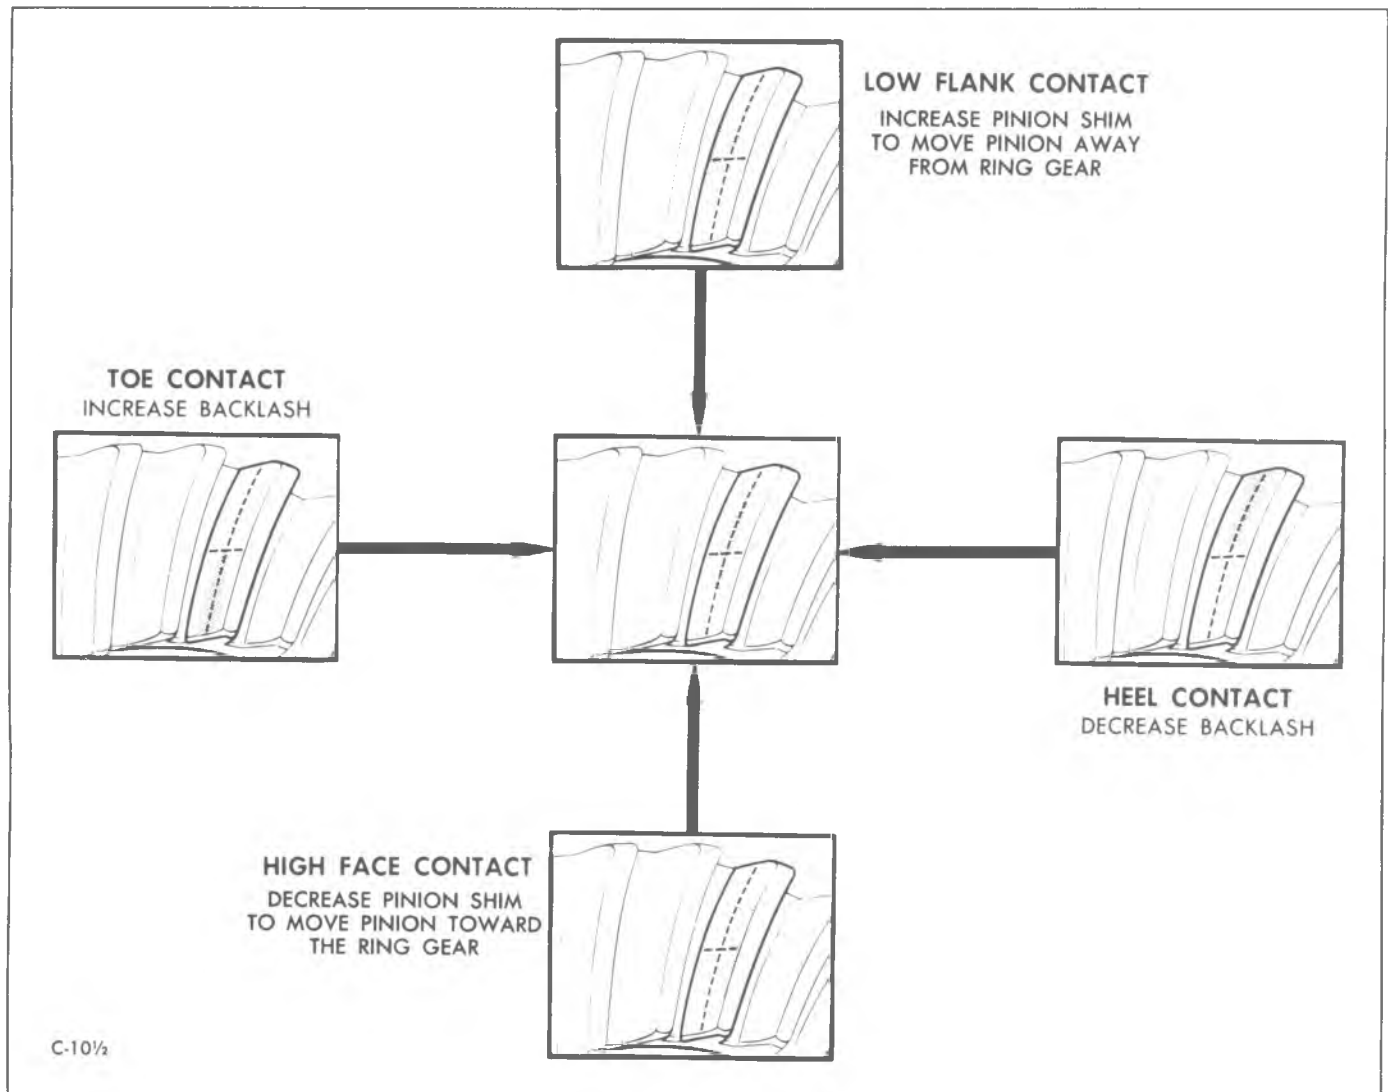

Fig. 18E--Gear Teeth Contact Pattern Check
5. Observe pattern on ring gear teeth and compare with figure 18E. Make adjustments as outlined below.
1. The pinion depth shim may be replaced as necessary to place the drive pinion at the correct depth. See figure 18E.